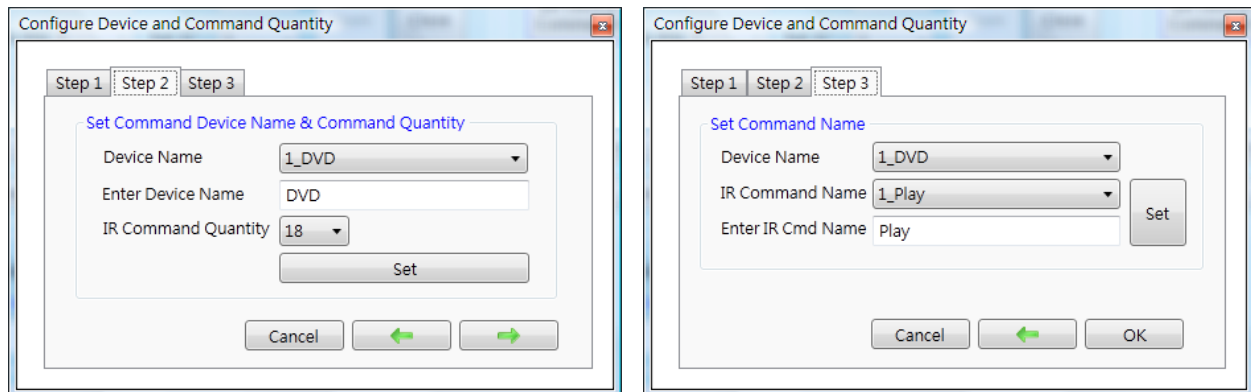

Fig. 10: Step 2 for device name & IR cmd Qty. Fig. 11: Step 3 for IR command names.
Step 2 : Set device name and the IR command quantity for the device (Fig. 10).